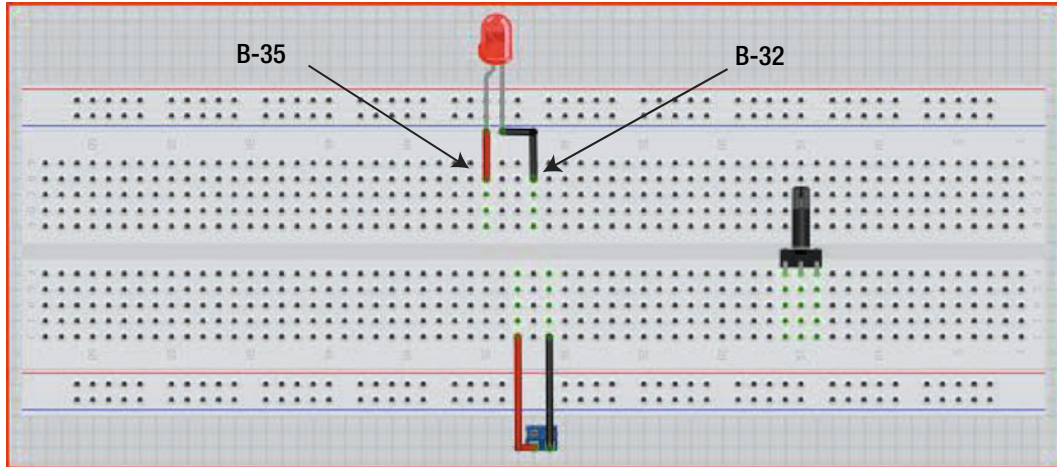

Figure 23-4. Attach the LED to the breadboard
- Now attach the red LED to the breadboard; the positive anode (long leg) should be connected to B-35 and the negative cathode (short leg) should be connected to B-32. Figure 23-4 illustrates this process.